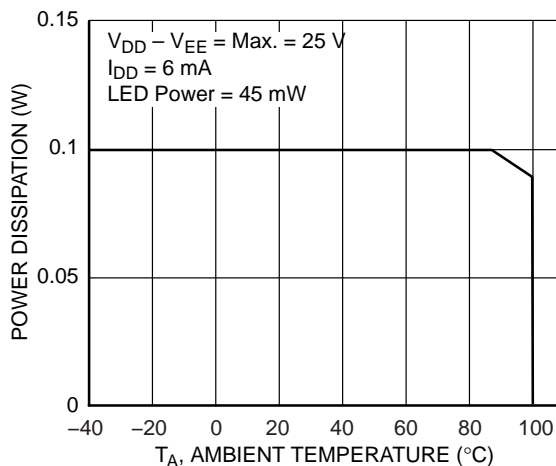

Figure 13. Absolute Maximum Power Dissipation vs. Ambient Temperature
3. Derate linearly above  $+87^\circ\text{C}$ , free air temperature at the rate of  $0.77\ \text{mW}/^\circ\text{C}$ . Refer to Figure 13.
The absolute maximum output power dissipation versus ambient temperature is shown in Figure 13. The output driver is capable of supplying 100 mW of output power over the temperature range from -40°C to 87°C. The output derates to 90 mW at the absolute maximum operating temperature of 100°C.